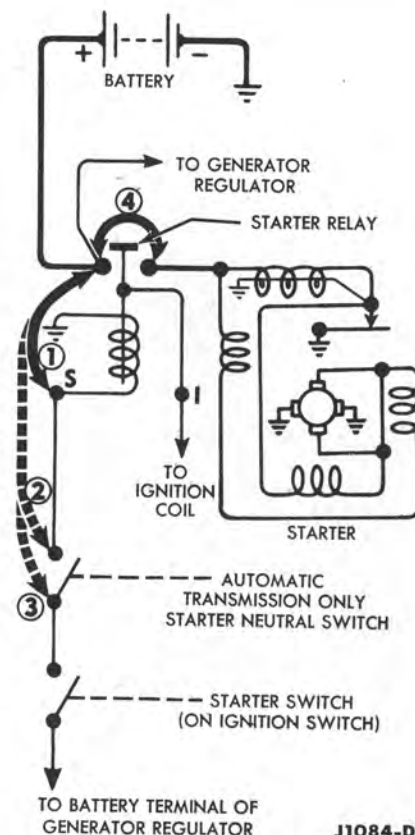

FIG. 2—Starting Circuit Test
<p>ENGINE WILL NOT CRANK AND STARTER RELAY DOES NOT CLICK (Continued)</p>	<p>CHECK BATTERY</p> <p>Perform a Battery Capacity Test. If the battery does not test as having good capacity, make a Battery Test Charge. Replace the battery if the test indicates that it is worn out or under capacity.</p> <p>CHECK STARTER RELAY</p> <ol style="list-style-type: none"> 1. Disconnect and ground the high tension lead from the spark coil so that the engine cannot start. 2. With a fully charged battery, operate the starter to crank the engine. If the engine will not crank and the relay does not click, connect a jumper lead from the battery terminal of the relay to the starter switch terminal of the relay (Fig. 2, connection ①). If the engine does not crank, the starter relay is probably defective. 3. On cars with an automatic transmission, if the engine cranks in Step 2, connect a jumper lead from the battery terminal of the relay to the relay side of the neutral switch (Fig. 2, connection ②). If the engine does not crank, the wire or a connection between the neutral switch and the relay is loose or broken. 4. On cars with an automatic transmission, if the engine cranks in Step 3, connect the jumper lead from the battery terminal of the relay to the ignition switch side of the neutral switch (Fig. 2, connection ③). If the engine does not crank, the neutral switch is out of adjustment or defective. 5. If the engine cranks in the preceding steps, there are three possible defects: <ul style="list-style-type: none"> The wire from the battery terminal of the regulator to the ignition switch is loose or broken. The ignition switch starter terminal is defective. The wire from the starter switch to the automatic transmission neutral switch or to the starter relay is loose or broken.
<p>ENGINE WILL NOT CRANK BUT STARTER RELAY CLICKS</p>	<p>If the relay clicks when the ignition switch is operated, connect a heavy jumper from the relay battery terminal to the relay starter motor terminal (Fig. 2, connection ④). If the engine cranks, replace the relay. If the engine does not crank, observe the spark when connecting and disconnecting the jumper. If there is a heavy spark, see Check Engine and Starter Drive below. If the spark is weak or if there is no spark at all, proceed as follows:</p> <p>CHECK CABLES AND CONNECTIONS</p> <p>If the spark at the relay is weak when the jumper is connected, inspect the battery starter cables for corrosion and broken conductors. Check the ground cable to see if it is broken or badly corroded. Inspect all cable connections. Clean and tighten them if necessary. Replace any broken or frayed cables. If the engine still will not crank, the trouble is in the starter motor, and it must be repaired or replaced.</p> <p>CHECK ENGINE AND STARTER DRIVE</p> <p>If a heavy spark is obtained when the jumper wire is connected, remove all the spark plugs, and attempt to crank the engine with the starter.</p> <p>If the engine cranks with the spark plugs removed, water has probably leaked into the cylinders causing a hydrostatic lock. The cylinder heads must be removed, and the cause of internal coolant leakage eliminated.</p> <p>If the engine will not crank, rock the car back and forth with the transmission in high gear, or in case of an automatic transmission or if the car cannot be rocked, loosen the starter mounting bolts to free the starter pinion.</p> <p>If the starter drive mechanism is locked, remove the starter from the engine, and examine the starter drive pinion for burred or worn teeth. Examine the teeth on the flywheel ring gear for burrs and wear. Replace the pinion or the flywheel ring gear if they are worn or damaged.</p> <p>If the starter drive mechanism is not locked, remove the starter from the engine, and perform the no-load current test. The starter should run freely. Compare the reading</p>